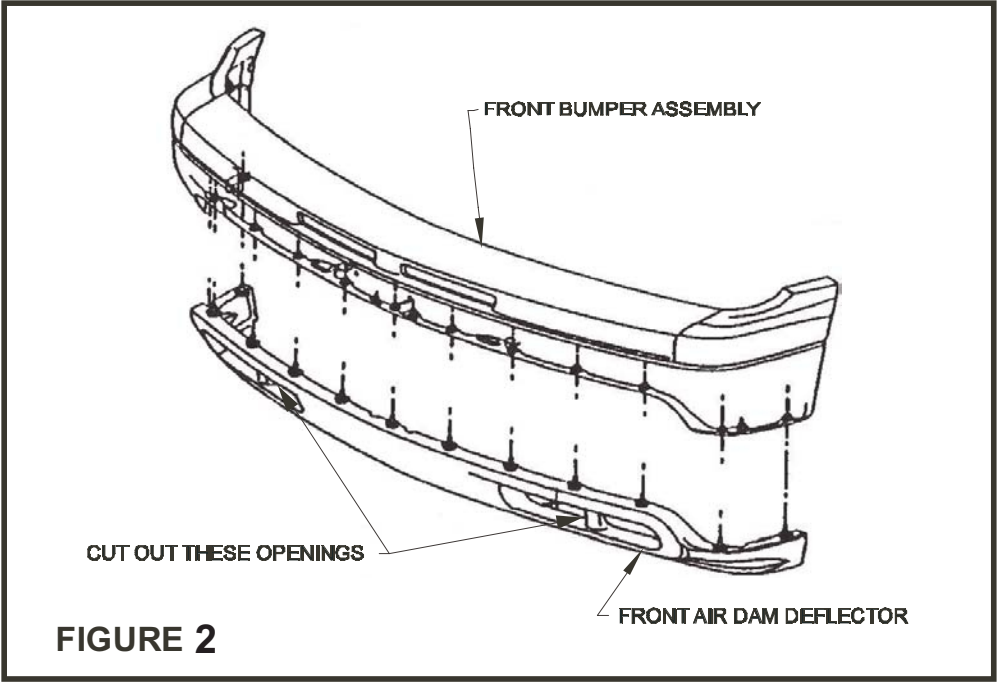

FIGURE 2
2. Determine passenger and driver brackets. From underneath vehicle, remove tow hooks. Slide brackets through end of frame and align holes in bottom of frame with the two nuts welded to the brackets. Attach brackets to frame rail with M12 fasteners as shown. **NOTE:** Use one spacer plate for large hole in bottom of frame as shown. Leave loose. **NOTE:** For vehicles without tow hooks a small opening may need to be cut out in the two inside indents of the airdam using a utility knife. **SEE FIGURE 2.**